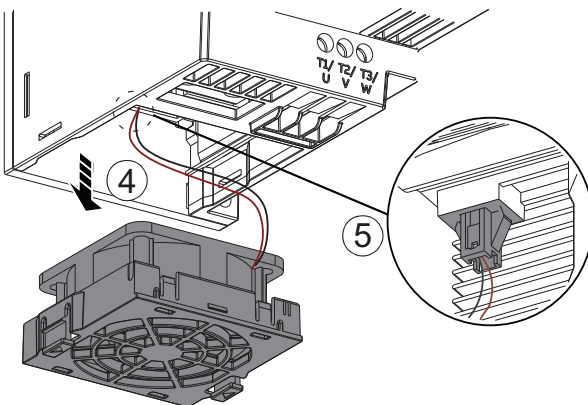

Fig. 69 — Disconnecting the Fan
4. Disconnect the fan power cable. See Fig. 69.